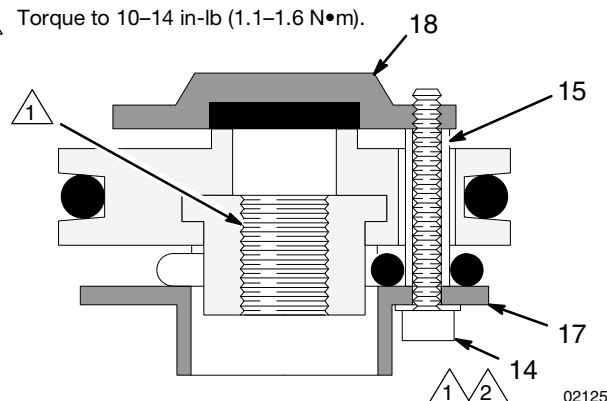

FIG. 7
6. If any valve plate spacers (15) are damaged, replace all three to maintain the correct clearance between the valve plates (17, 18) and the seats. See Fig. 7.
- △1 See Fig. 7.